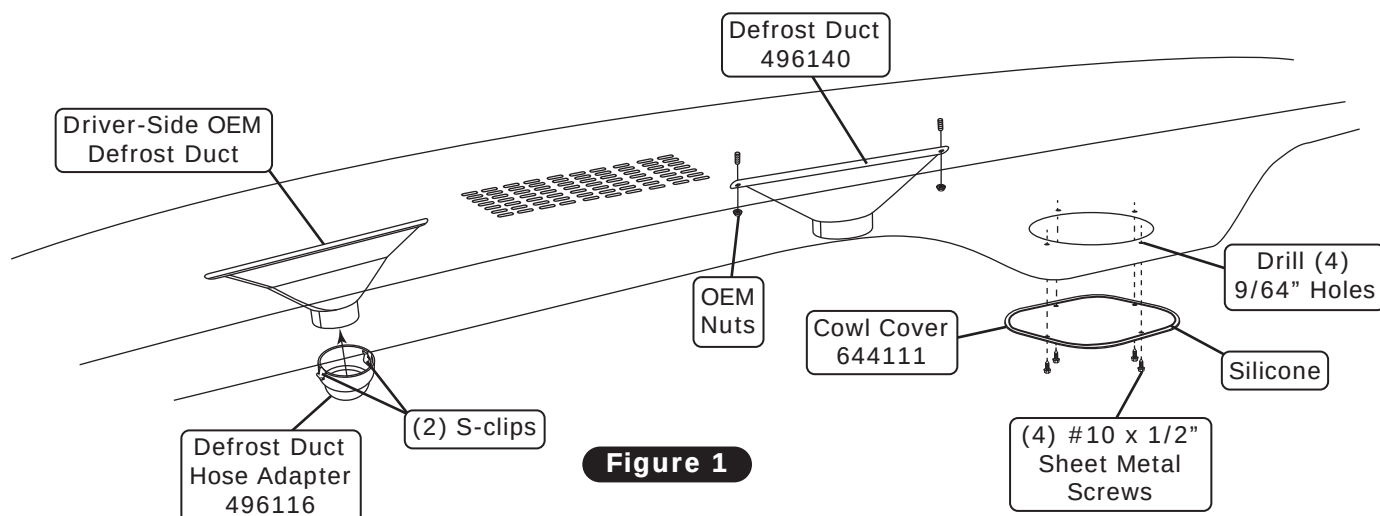

Figure 1
7. Secure the cowl cover to the fresh air hole using (4) #10 x 1/2" sheet metal screws as shown in Figure 1, below.